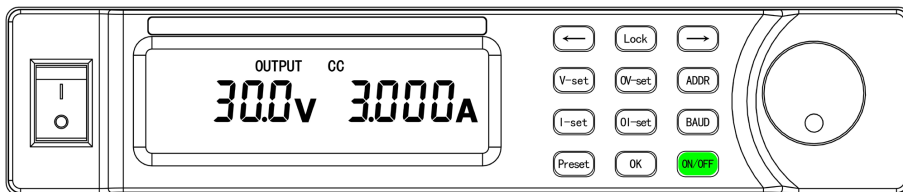

Fig.5-7
- Press OK key to confirm the above setup and exit voltage setup mode. Now the displayed voltage and current values are real output values (refer to Fig.5-7).